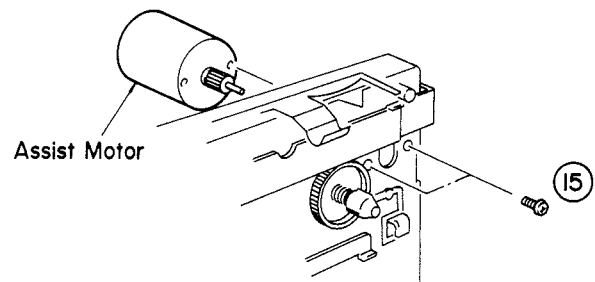

Fig. 11
- Remove 2 screws (15) in Fig. 11 and replace the assist motor.